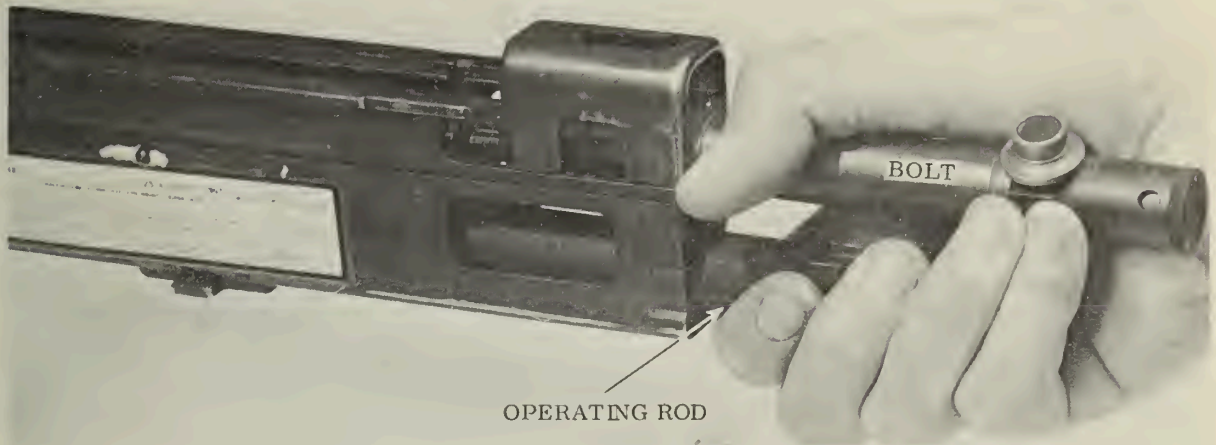

Figure 9. --Removing the Bolt and Operating Rod.
(3) Grasp the operating rod and bolt securely and remove them from the receiver. Slowly relax the grip and allow the bolt to rotate on the operating rod. (See fig. 9.)
(4) The operating group consists of the operating rod drive spring, the operating rod drive spring guide, the operating rod, and the bolt.